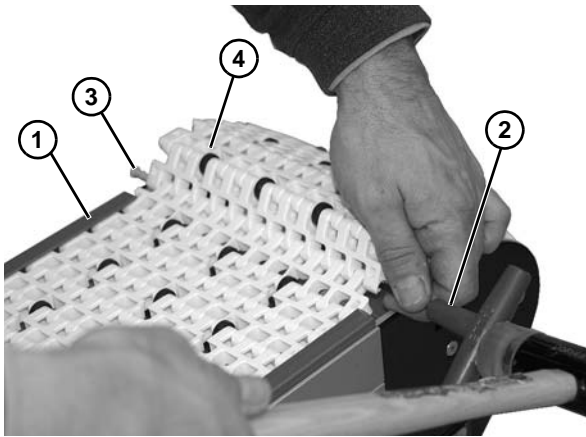

Figure 39
1. Lift belt off of frame at idler end of conveyor past edge strip (Figure 39, item 1).
2. Use a punch (Figure 39, item 2) and hammer to push the belt rod (Figure 39, item 3) out by striking the rod end opposite the retaining head.
3. Slide the old belt (Figure 39, item 4) off the conveyor frame.